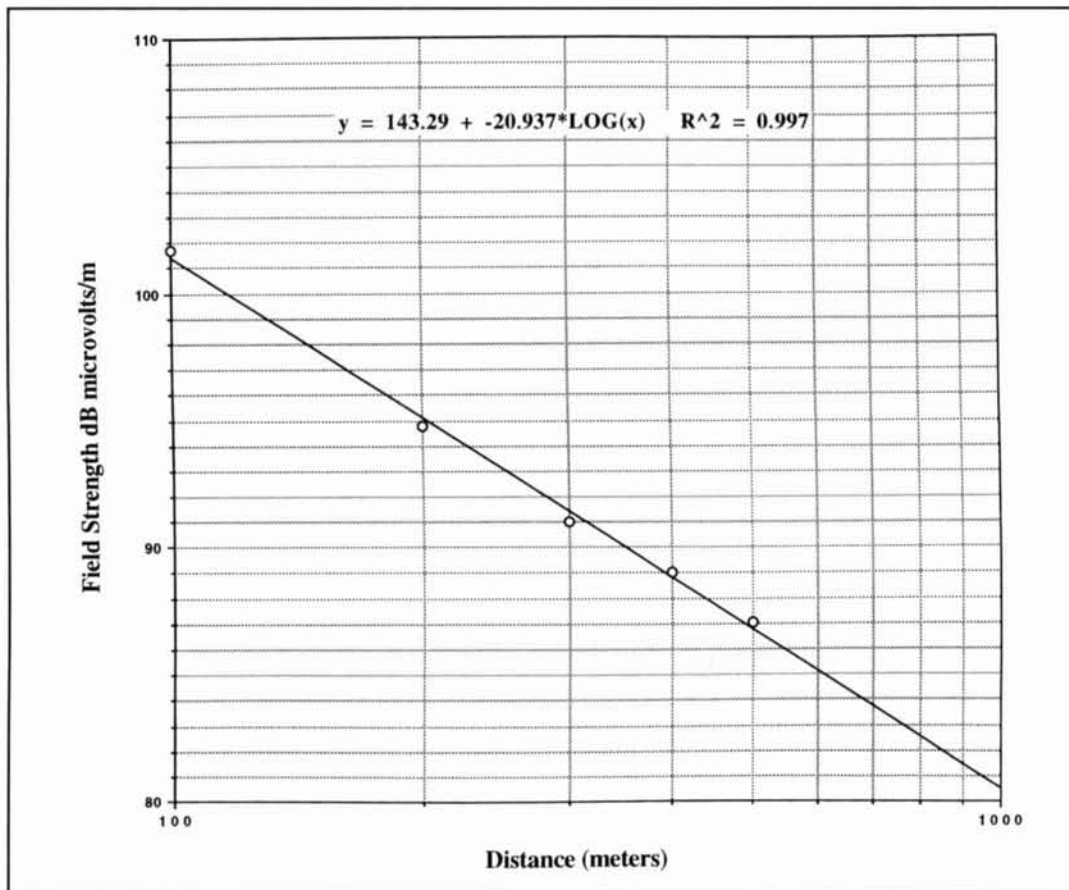

Figure 2. Measured field intensity versus distance for a 191-centimeter reference length antenna, frequency 3762 kHz, transmitter power 30 watts.
The Field Strength (FS) was measured using a Singer Model NM-26T FI Meter and an Electro Mechanics Company (EMCO) Passive Loop Antenna Model 6512, calibrated for FS measurement. The transmitter power was 30 watts and the frequency was 3762.5 kHz. The antenna under test, for the initial set of measurements, was the TABA base section on VE2CV's Yukon truck with one section for the top whip and a total antenna height of 191 centimeters. The FS in dB $\mu$ V/m along a baseline in an open field was measured at 100, 200, 300, 400, and 500 meters distance. The results are plotted in **Figure 2**. The continuous line is the least square logarithmic fit to the data. Because the FS measured was expected to fall off faster